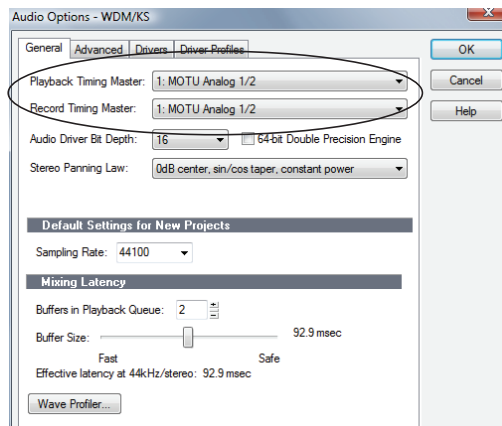

Figure 8-4: Make sure you have chosen an UltraLite-mk3 input and output for the playback and recording timing master settings.
- 2 Choose any UltraLite-mk3 input and output for recording and playback timing as shown below in Figure 8-4. It doesn't matter which ones.